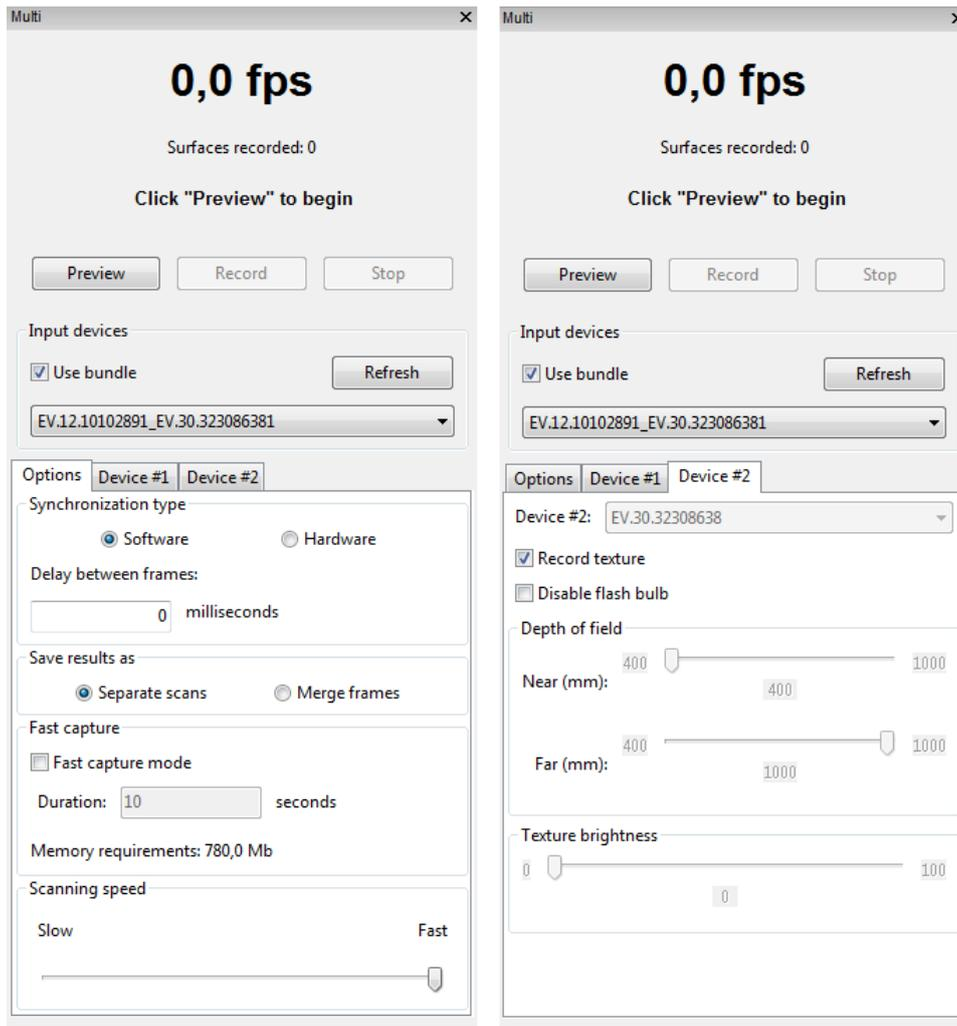

Figure 110: Multicapture panel: *Options* tab on left, *Device* tab on right.
*Multi* mode allows you to capture 3D-data streams simultaneously from several devices. Selecting this mode activates the corresponding panel (see Figure 110) and lets you choose the device configuration: either use one of the existing bundles or specify the scanner list manually.
Sometimes, limiting the cameras' field of view is necessary (e.g., to cut off extraneous distant objects). Two sliders in the *Depth of field* area set the near and far scanning boundaries. The application sets work-area boundaries for each device independently in the device tabs (see Figure 110, right). By default, the minimum and maximum boundary values for the corresponding device type are set to the recommended range; we encourage you to avoid changing them. However, if you're using Artec L scanners or 3D sensors, it may become necessary. To change these values manually, mark the *Override default depth range* checkbox in the *Scan* tab of the *Settings* dialog and enter the appropriate values in the fields below.